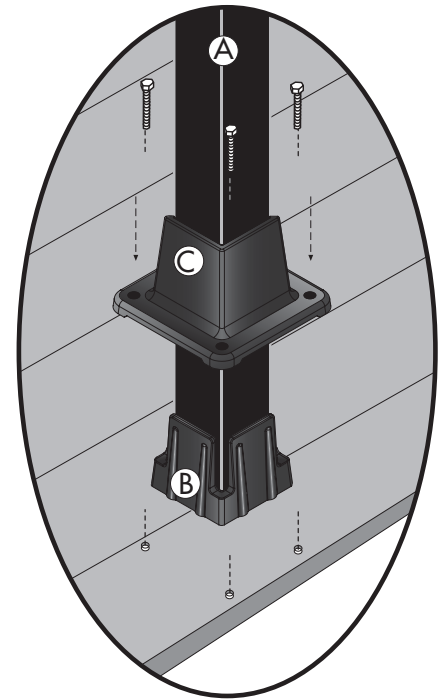

Figure 1
- 1.) Slide surface mount adapter (B.) (Included) over post end *Figure 1*.
- 2.) Slide surface mount (C.) over post to cover surface mount adapter *Figure 1*.